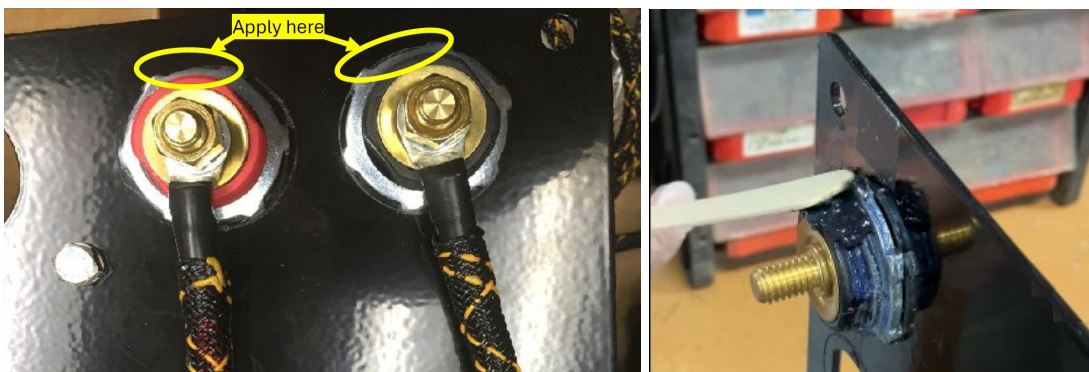

Figure 2: Resin Application Location
- 6) Apply resin mix directly to the bolt, or use wood stick applicator if needed. Be sure to cover a section of the lock nut and all threads on the bolt, as well as where the bolt connects to the back plate. (See Figure 2 for reference)